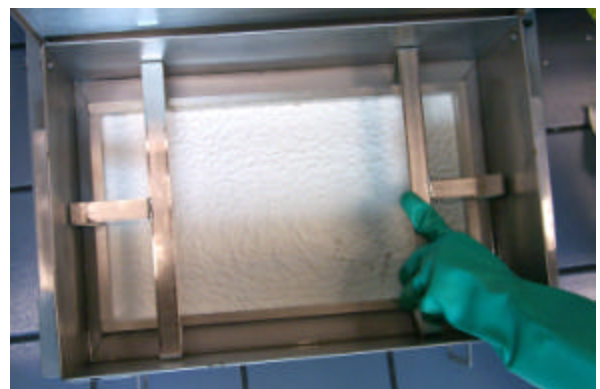

Fig: 12-3
5. Remove hold-down ring, which holds the filter paper or filter pad in place. **Fig: 12-3**